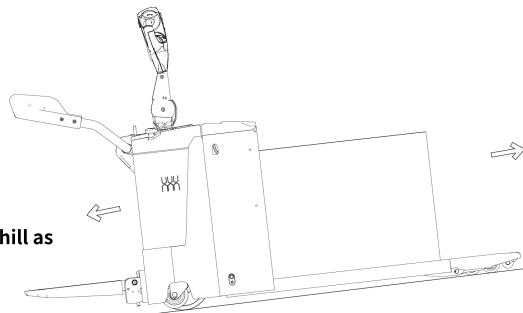

Fig. 8: Load Facing Uphill
Park safely and lash the truck at points shown in Fig. 8. Lift to destination and set securely before removing lifting gear.
- ⚠ **Travel on ramps only with load facing uphill as shown in Fig. 8.**